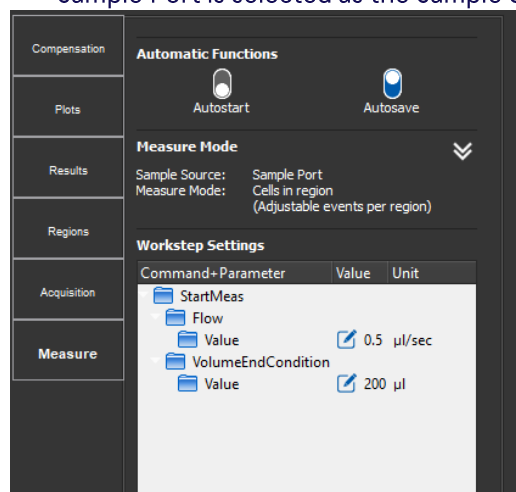

Figure 5. Measurement settings
1. Click on QC Cube  in the main bar and check under Settings  → Measure whether the Sample Port is selected as the Sample Source and that the settings match those in Figure 5.